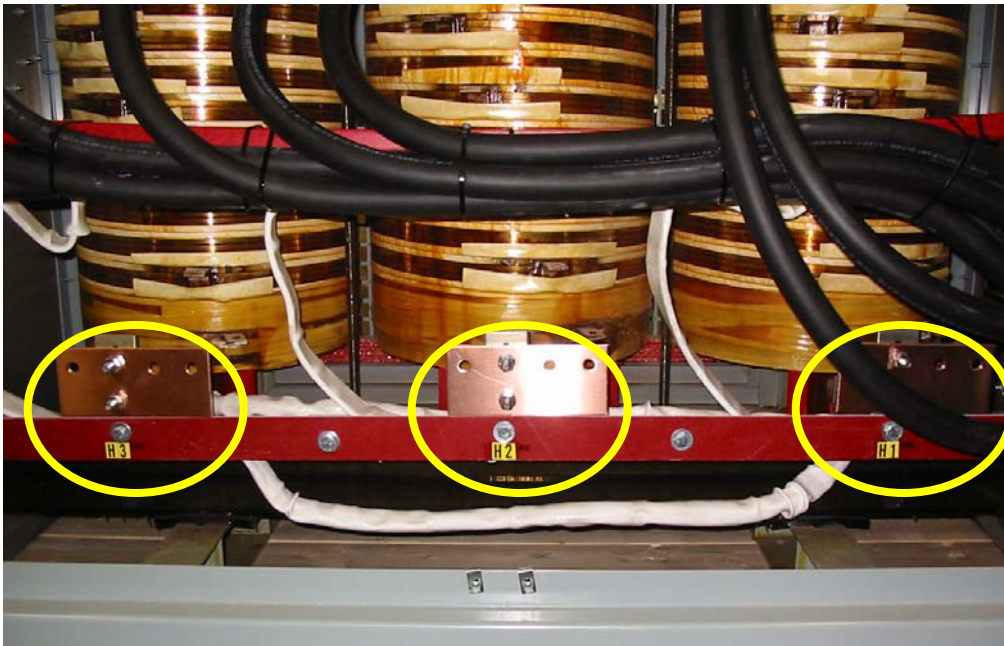

Figure 2-19: NX Power Transformer Primary Terminals (H1, H2 and H3), access panel removed for clarity
- (q) Ensure each phase is marked with colored tape (ground wire with green tape). Connect the end of the WT05 wires to the copper plates (provided for each phase) (see Figure 2-19). Secure the wire(s) for each phase (three for NX300 systems) to these copper plates [torque to 50 in-lbs (5.6 N-m) for HAM81 lugs]. Repeat this for each of the three phases (A, B and C). Ensure colored phase wires are grouped together. Connect the end of the WT06 ground wire to the transformer ground stud.